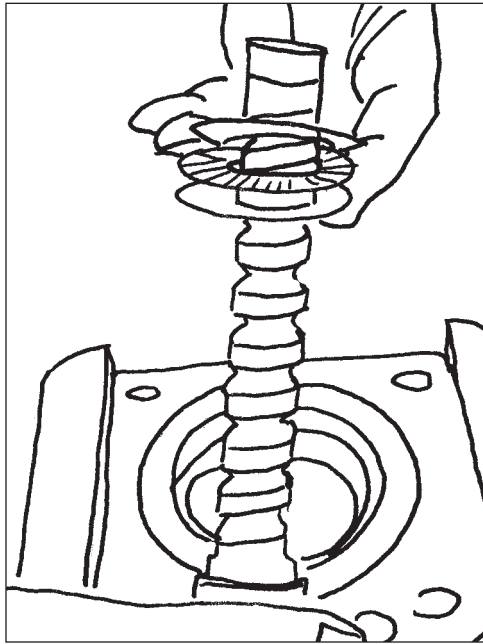

Figure 69
8. Inspect the thrust washers and thrust bearings for excessive wear or damage. Replace worn or damaged parts (**Figure 69**).